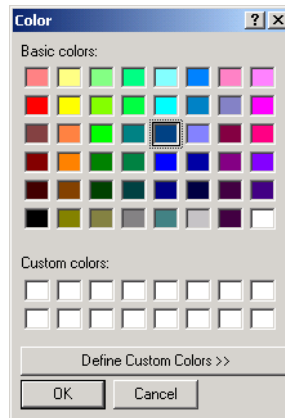

Figure 1-4. Color Palette
2. **Click the color box in front of the item you wish to customize, or click the I/O bank you wish to change.** The color pallet is displayed, as shown in Figure 1-4.